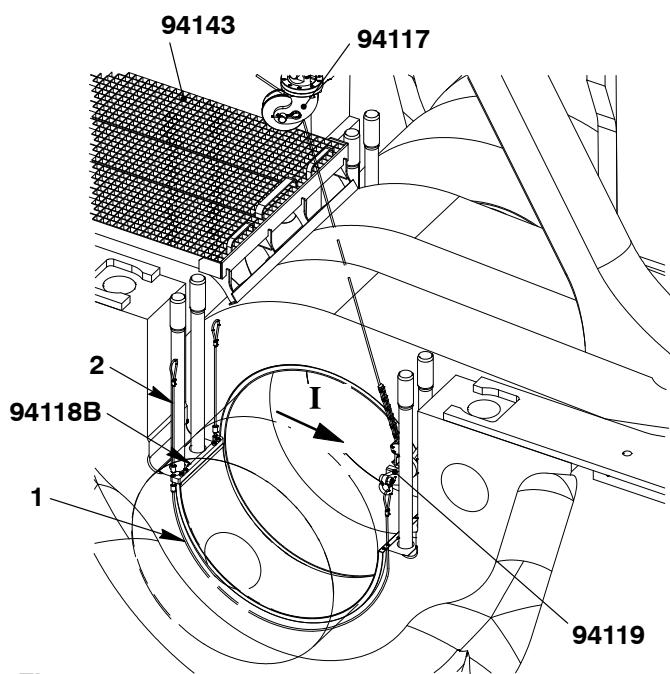
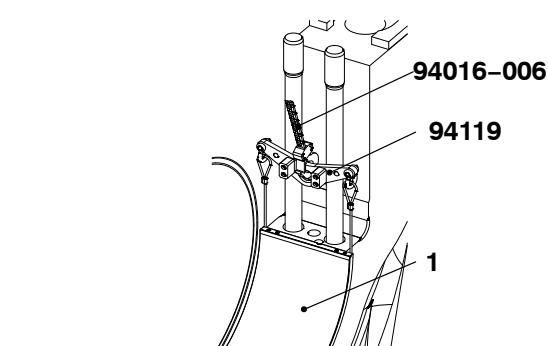

Fig. 23
Fig. 25
- Attach the working support (94143, Fig.23).
- Attach the dismantling tool (94118B) to the bottom main bearing shell (1), see Fig. 23.
- Put the ropes (2, Fig.23) along the lateral edges of the main bearing shell (1) to the other side and attach them to the lifting plate (94119) as shown in Fig.25.
- Attach the chain of the manual ratchet (94016-006) through the roller support (94117) to the lifting plate (94119) as shown in Fig. 25.